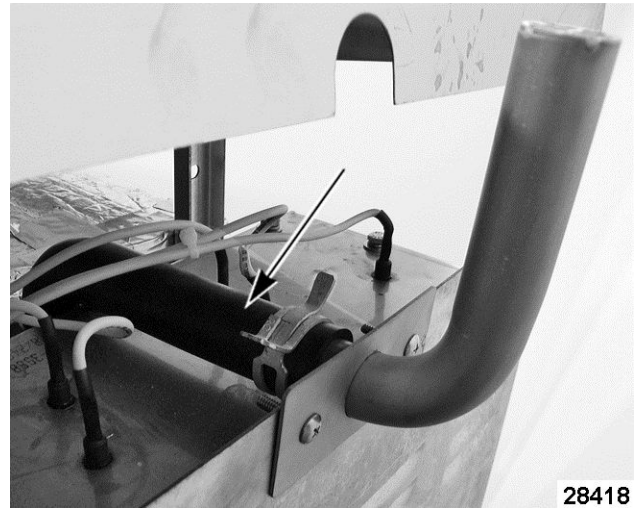

Fig. 8
4. Lift top cover at the rear to access vent hose Fig. 8 then remove clamp securing hose to vent tube.